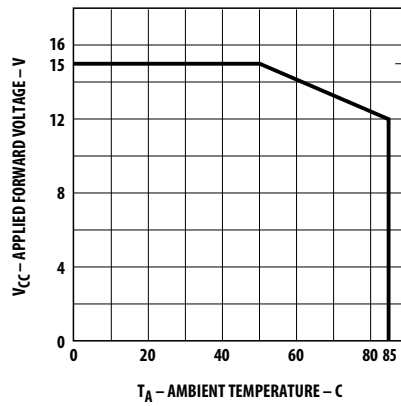

Figure 4. Maximum allowed applied forward voltage vs. ambient temperature $R\theta_{JA} = 175^{\circ}\text{C}/\text{W}$. 12 volt devices.
- Derate from T_A = 50°C at 0.086 V/°C, see Figure 4.